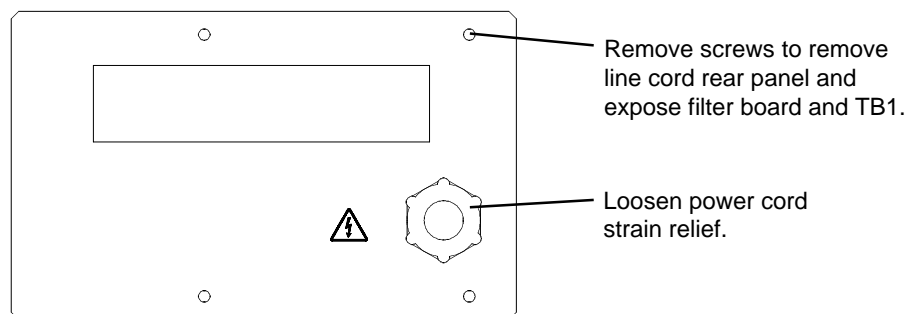

Figure 2-4 Removal of Power Cord from Powermax900 CE Power Supply - 1 of 2
3. Remove power cord from power supply. See Figure 2-4.